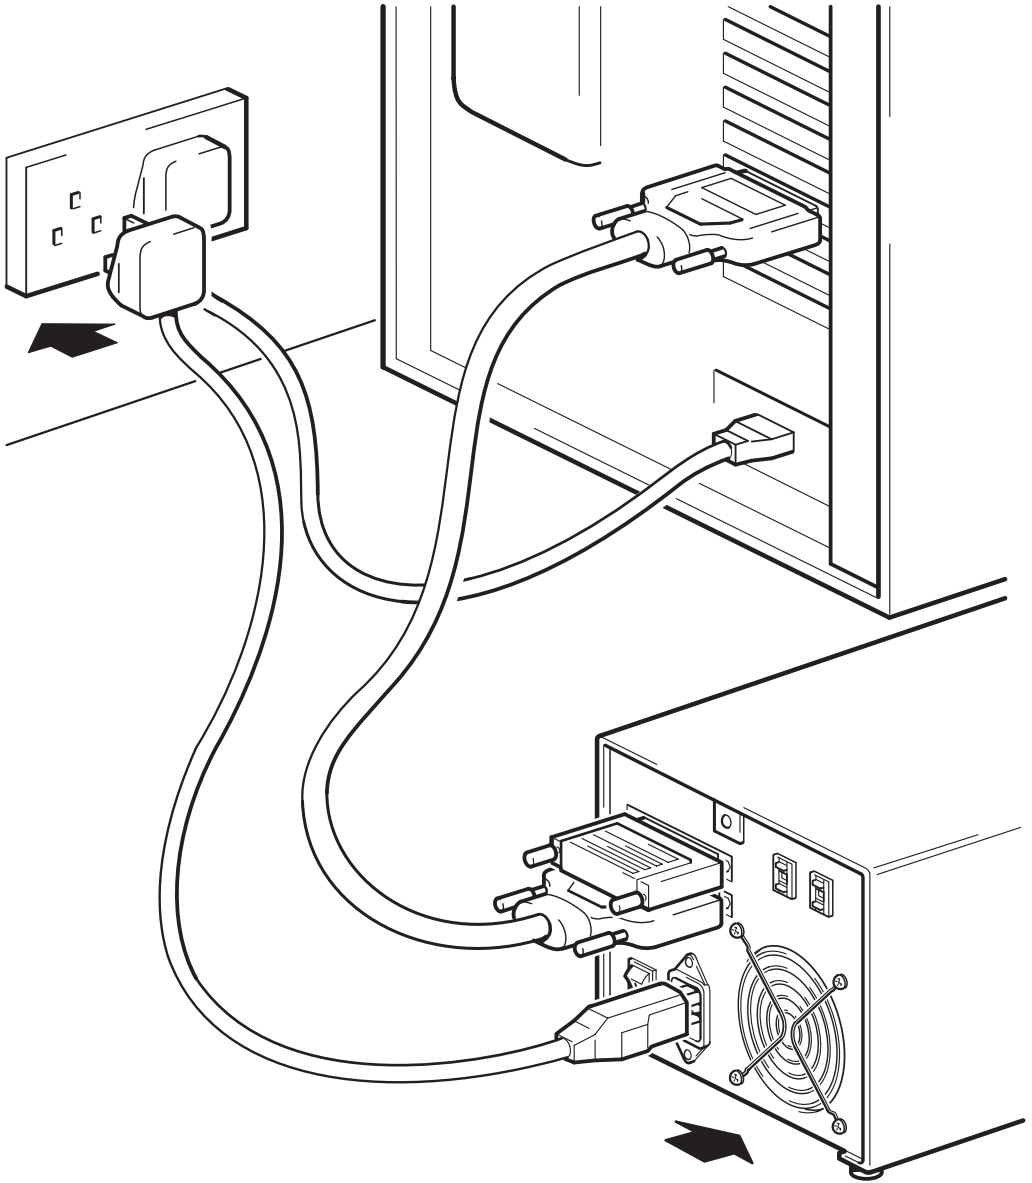

Figure 6: attaching the power cable
- 2 Plug the power cable securely into the socket on the rear panel of the autoloader. (See figure 6.)